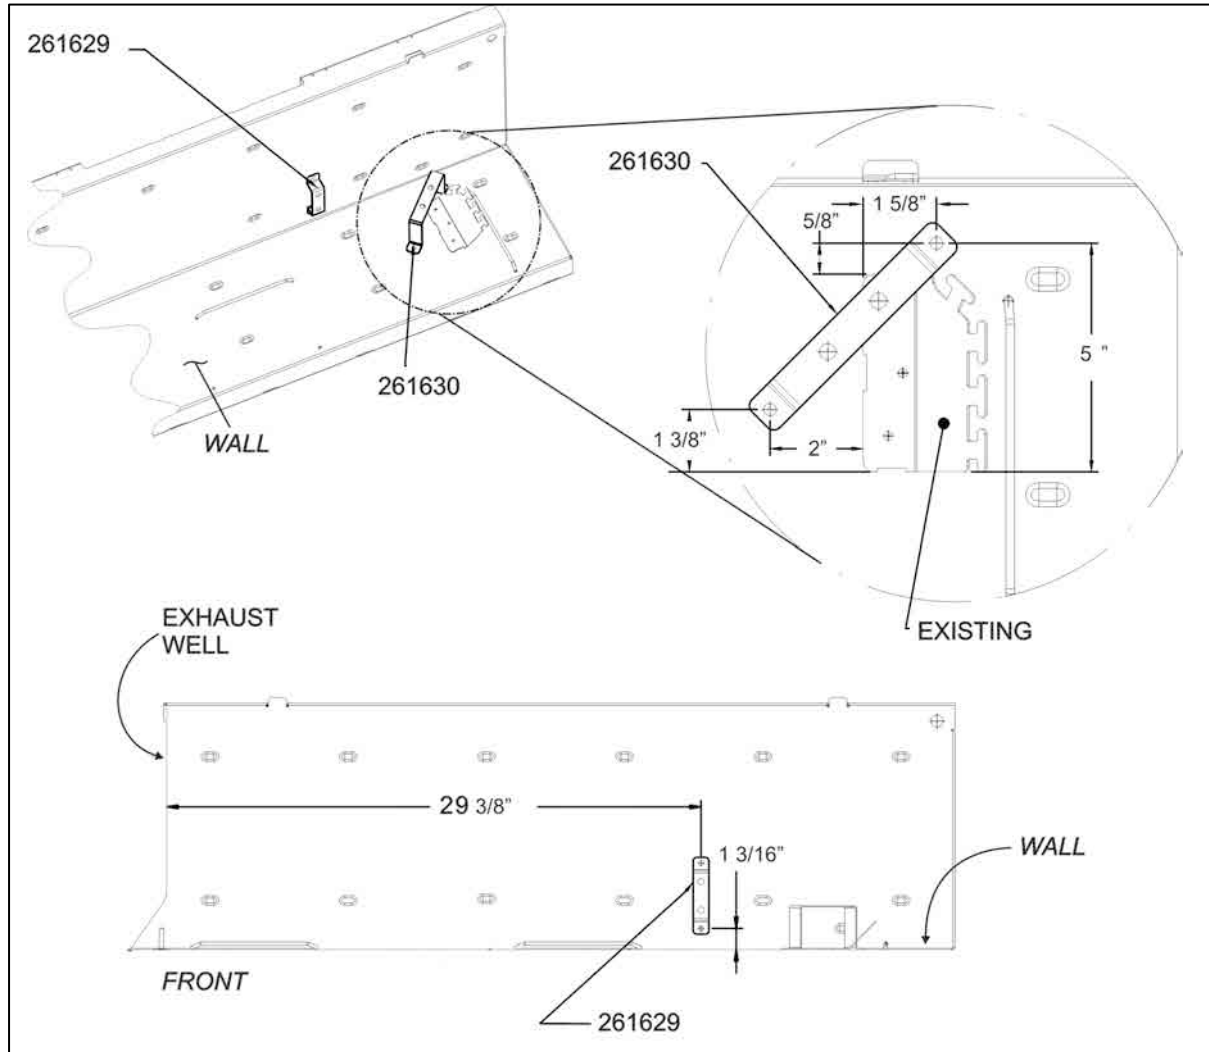

Figure 12
20. For **261629**, as a reference for measures, use wall and exhaust well edge (above exhaust bellows section) (Fig 12)